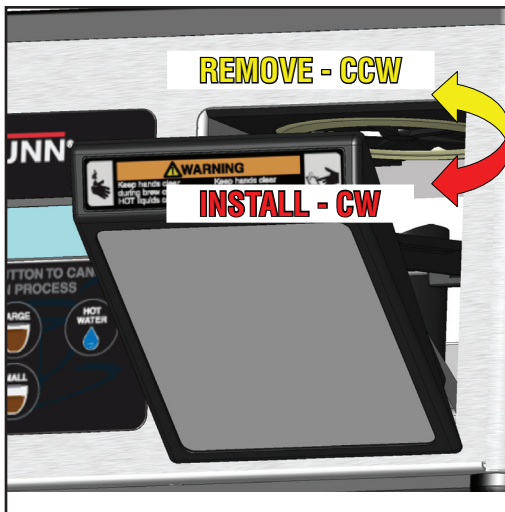
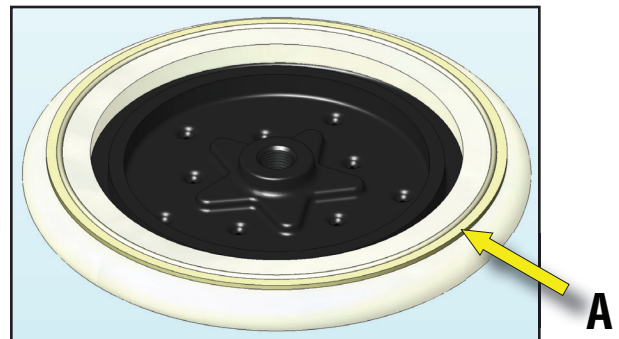

FIG 8-1
FIG 8-3
1. Place cup under brew chamber FIG 8-1. (Slide booster out for small cups) FIG 8-3.
3. Press fresh pod *firmly down* into pod holder FIG 8-3.
3. Unscrew sprayhead counterclockwise (looking from below). Fig 8-1
6. When reassembling sprayhead, be sure to have seal installed with ridge facing up (A). Fig 8-3